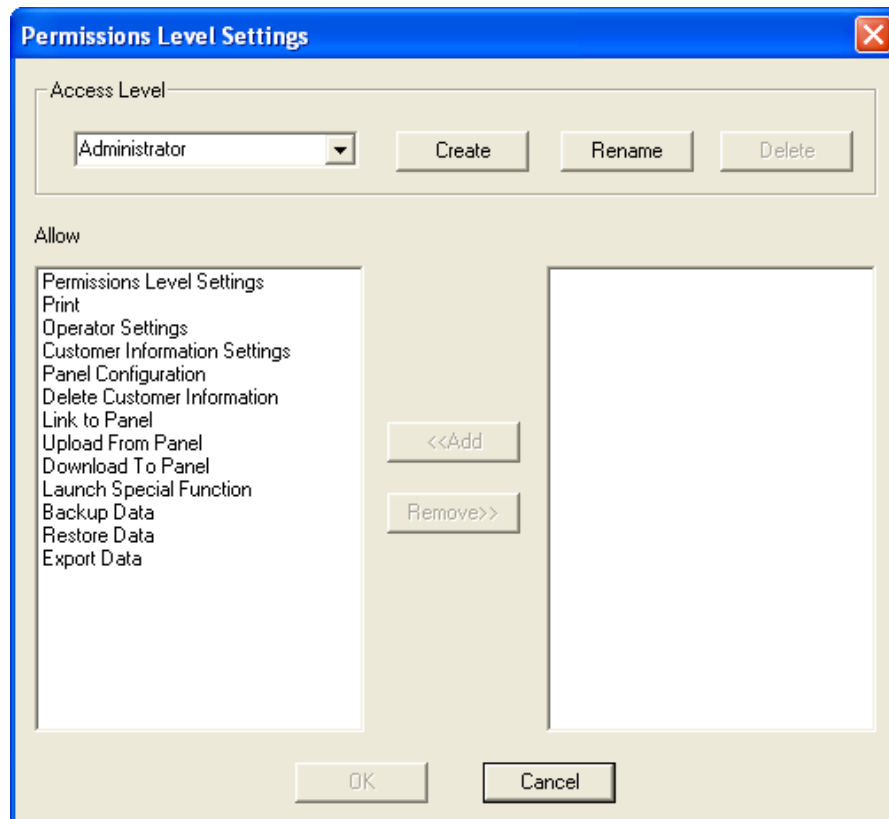

Figure 3.4 Permissions Level Setting Dialog
The **Permissions Level Settings** dialog opens. Refer to *Figure 3.4, Page 14*.
4. In the **Allow** fields, select a permission and click **Add** to add the permission to the access level. Repeat this step for all other desired permissions. Refer to *Figure 3.4, Page 14*.